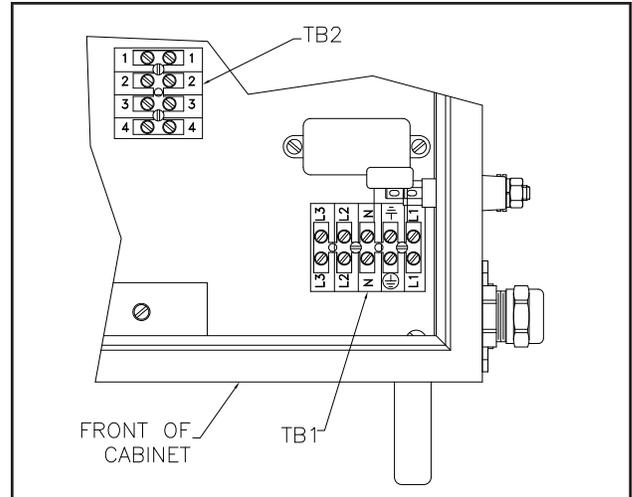
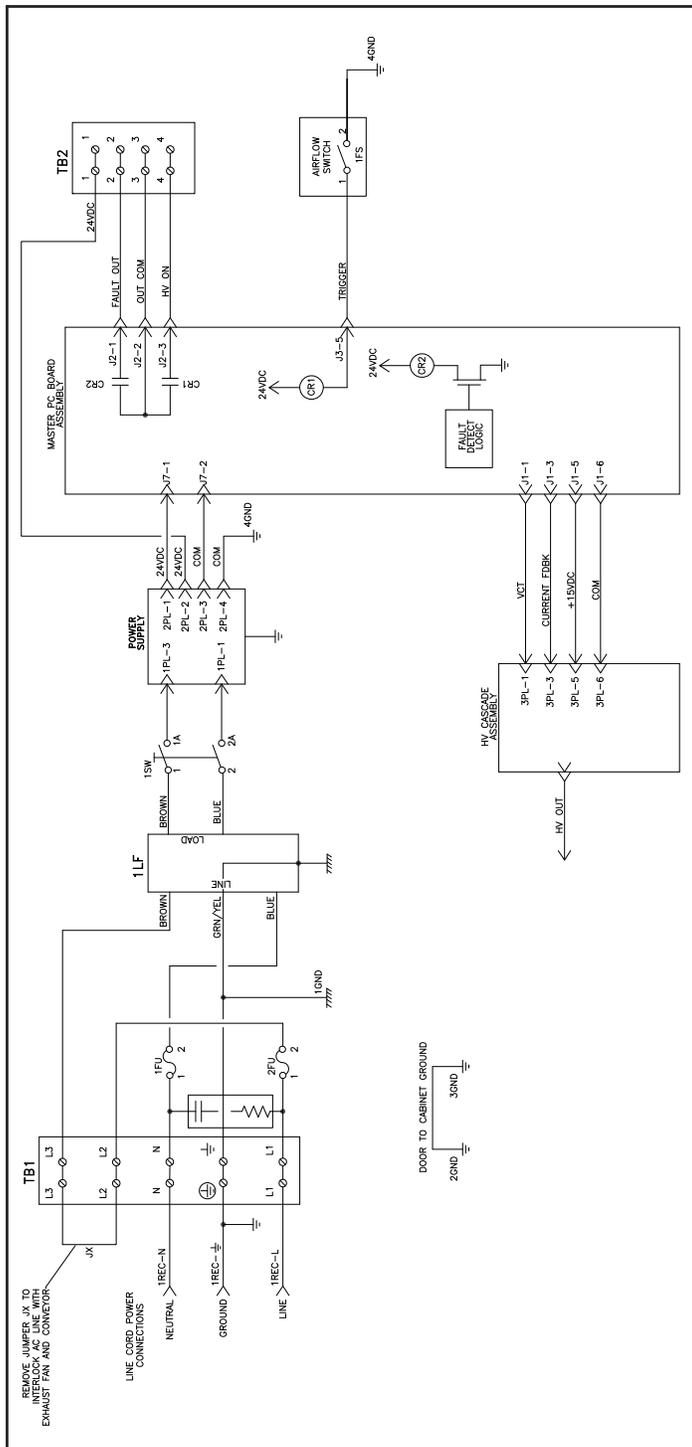

Figure 8: Location of TB1 and TB2 In Power Supply
Figure 9c: Power Supply Schematic
1. **Ensure the AC line cord is unplugged** and remove the AC inlet receptacle wiring from TB1-N, TB1-L1 and TB1-EARTH GROUND (see Figures 8 and 9a).
A set of relay contacts for high voltage (CR1) and fault (CR2) conditions is provided at TB2-4 and TB2-2 (see Figure 8). One end of these relay contacts are connected together and also connected to a source input terminal at TB2-3 (see Figure 9c). When a source voltage is present at TB2-3 and either the high voltage is on or a fault condition occurs, the source voltage will become available at the output end of the corresponding contact. Maximum contact ratings are as follows: